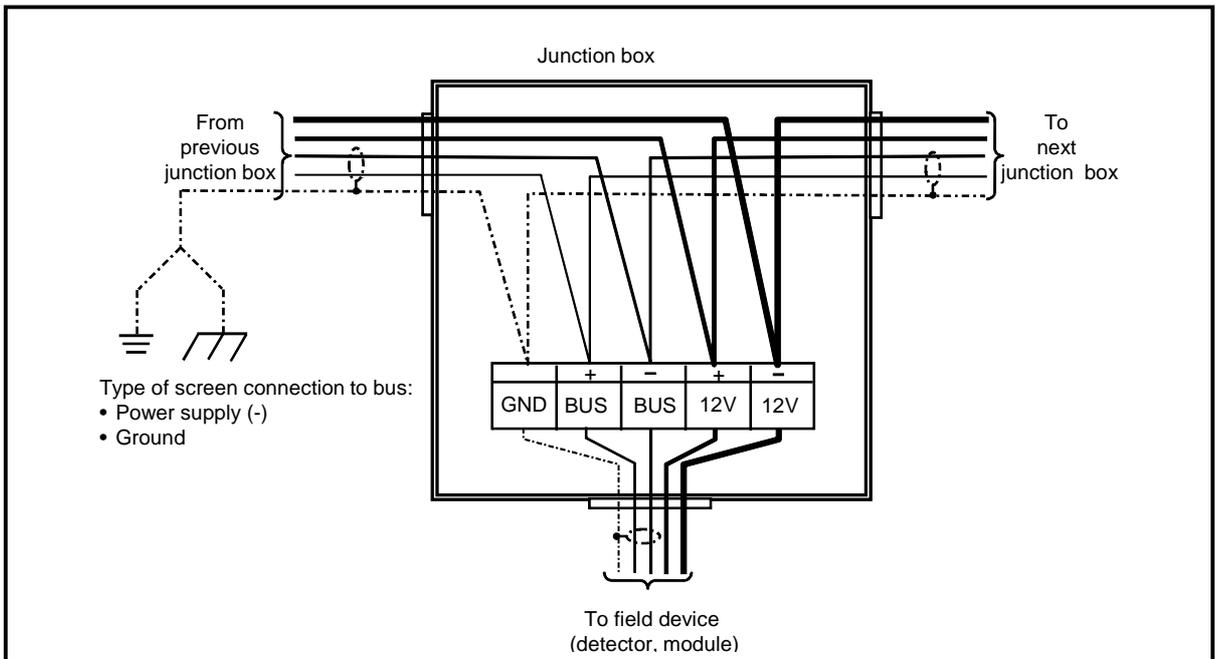

Fig. 4.3 – Cabling in junction box
- the BUS shield wire must be connected to earth by one part only and close to the generator; the connection of the subsequent sections is shown in Fig. 4.3
Fig. 4.3 shows a cabling example of the junction box.